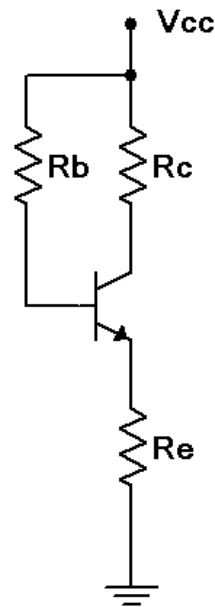

Figure 2
8. Consider the circuit of Figure 2 using $V_{cc} = 12$ volts, $R_b = 220\text{ k}\Omega$, $R_e = 470\text{ }\Omega$ and $R_c = 330\text{ }\Omega$. Determine the ideal end points of the DC load line and the Q point, and record these in Table 5.
10. Build the circuit of Figure 2 using $V_{cc} = 12$ volts, $R_b = 220\text{ k}\Omega$, $R_e = 470\text{ }\Omega$ and $R_c = 330\text{ }\Omega$. Measure the base, emitter and collector voltages and record them in the first row of Table 6 (Experimental).